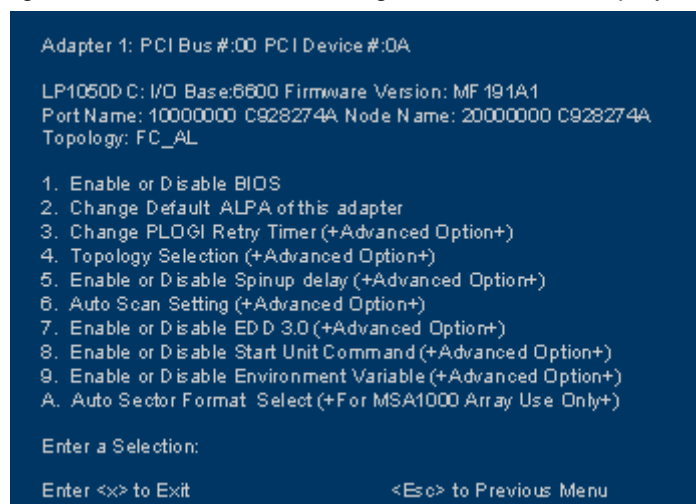

Figure 50: BIOS Utility, HBA Configuration Menu
4. Press **2** to configure the HBA. The HBA configuration menu is displayed (Figure 50).